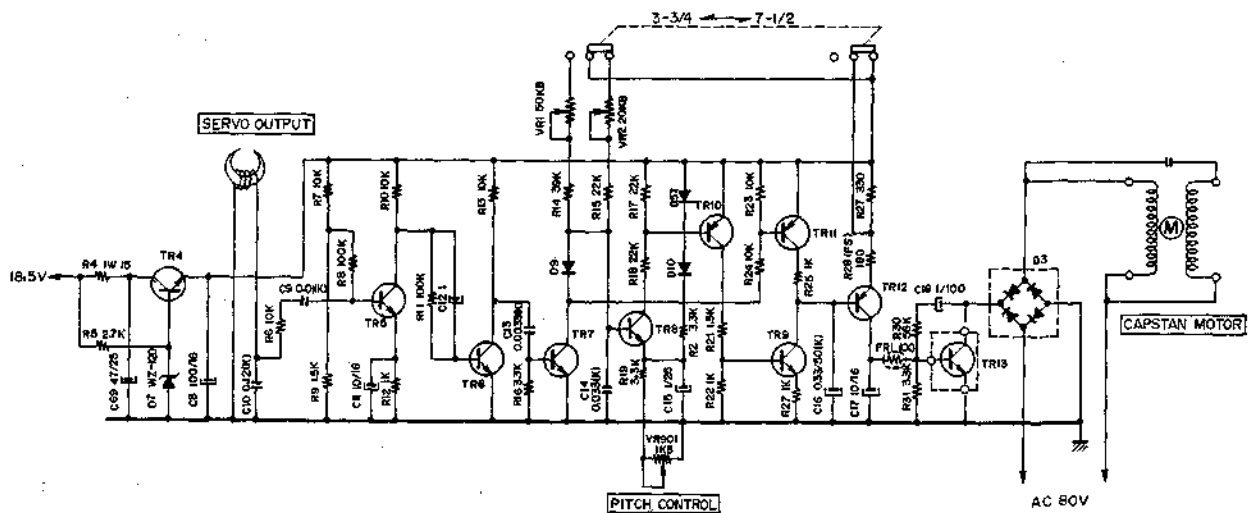

Fig. 20
2) Explanation of the circuit operation (Refer to Figs. 20, 21)